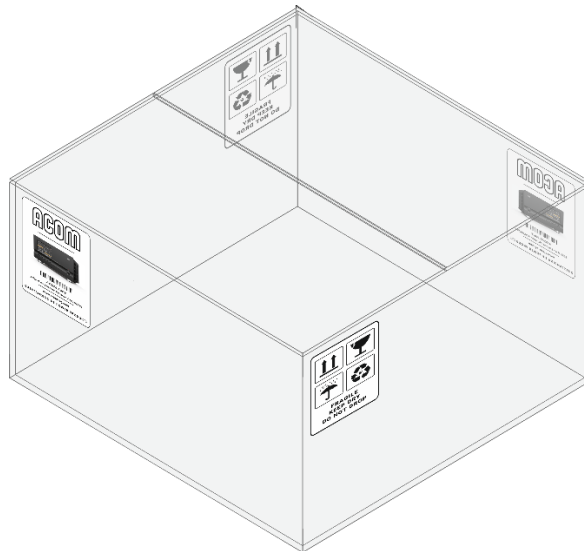
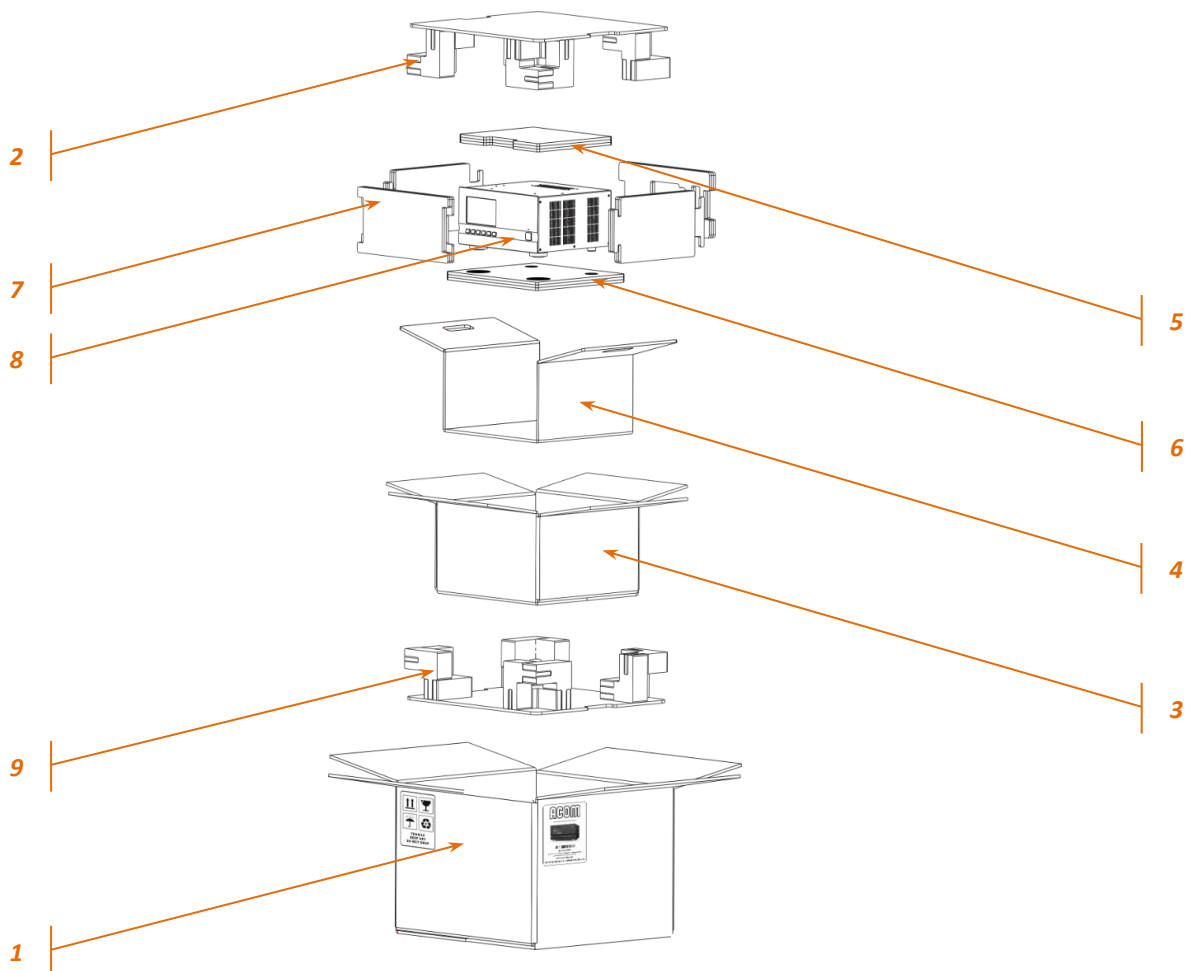

Figure 2-1 | Packaging carton (outside view)
Figure 2-2 | ACOM 1010 packaged in a cardboard box
- Open the cardboard carton (see *Figure 2-1 | Packaging carton (outside view)* and *Figure 2-2 | ACOM 1010 packaged in a cardboard box*, Pos. 1);
- Take out the top secure element (see *Figure 2-2 | ACOM 1010 packaged in a cardboard box*, Pos. 2);
- Open the internal cardboard carton (see *Figure 2-2 | ACOM 1010 packaged in a cardboard box*, Pos. 3);
- Take out the amplifier using handles of the middle secure element (see *Figure 2-2 | ACOM 1010 packaged in a cardboard box*, Pos. 4);
- Take out the amplifier (Pos. 8) from the middle secure element and remove top, bottom, and sides flat secure elements (see *Figure 2-2 | ACOM 1010 packaged in a cardboard box*, Pos. 5, 6 and 7);
(See *Figure 2-2 | ACOM 1010 packaged in a cardboard box*, Pos. 9)